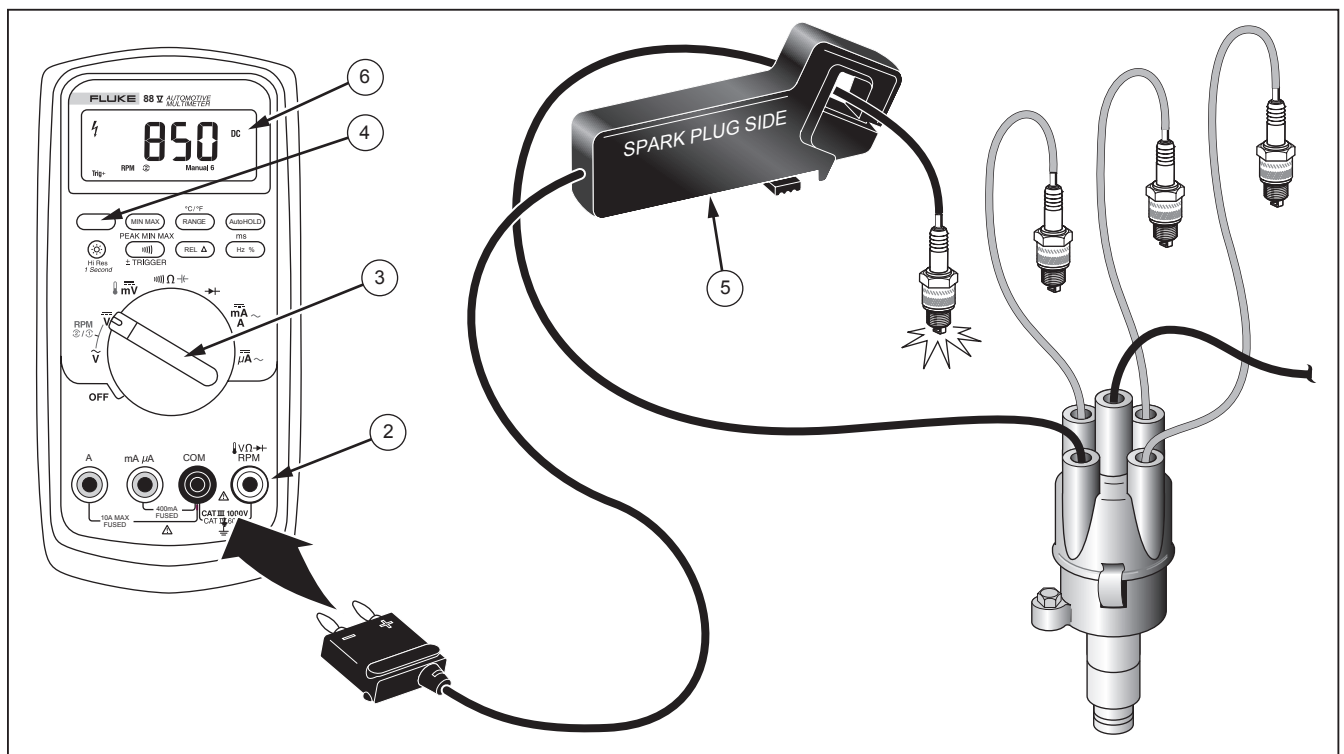

Figure 9. Measuring RPM with Inductive Pickup
2. Connect output plug of Inductive Pickup in the input terminals shown. Make sure the (-) plug is in COM and the (+) is in RPM. See Figure 9.